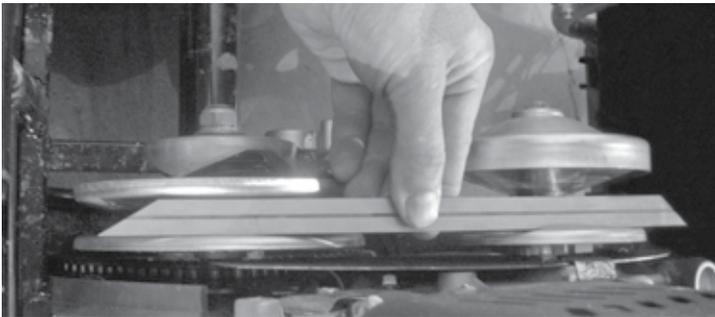

fig. 5
3. Before installing the belt, check the alignment of the fixed sheaves of the driver and driven pulley using a straightedge as shown in figure 5. Adjust the driver out board, if needed, by installing a  $\frac{3}{4}$ " washer behind the driver.